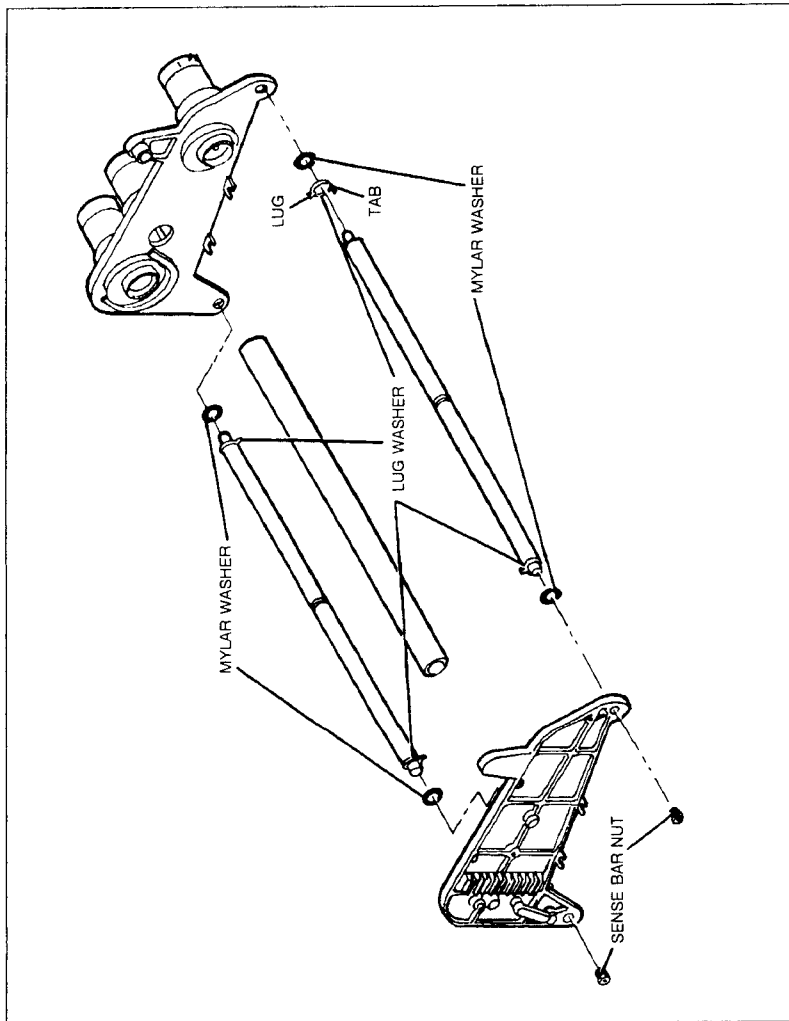

Figure 6-49. Ribbon Reversing Sense Bar Installation
- c. Place the sense bar in position and secure it with the two brass nuts (see Figure 6-49). Note, the bars must be installed so that the lugs on the lug washers are pointing toward the other ribbon reversing sense bar. When the bar is installed and tightened, the lug washers cause the bar to bow slightly. This bow is not detectable but must